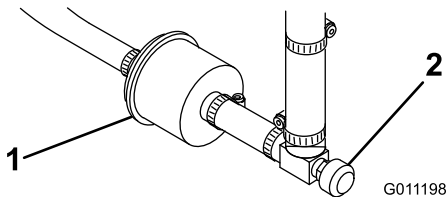

Figure 38
An in-line filter is incorporated into the fuel line between the fuel tank and carburetor (Figure 38). Replace the filter every 800 hours or sooner if the fuel flow is restricted. Be sure the arrow on the filter is pointing away from the fuel tank.
1. Close the fuel shut off valve, loosen the hose clamp on the carburetor side of filter, and remove the fuel line from the filter (Figure 38).
2. Place a drain pan under the filter, loosen the remaining hose clamp and remove the filter (Figure 38).